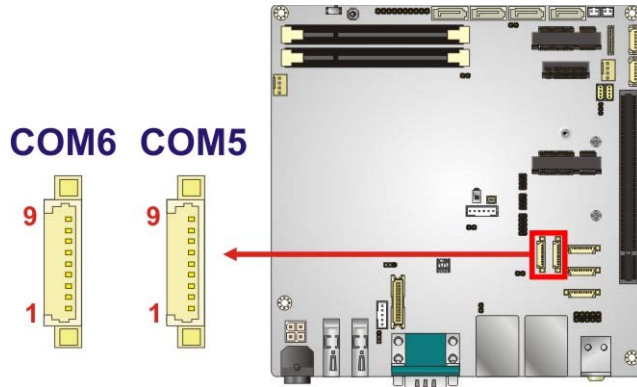

Figure 3-20: RS-232/422/485 Connector Locations
- CN Location:** See **Figure 3-20**